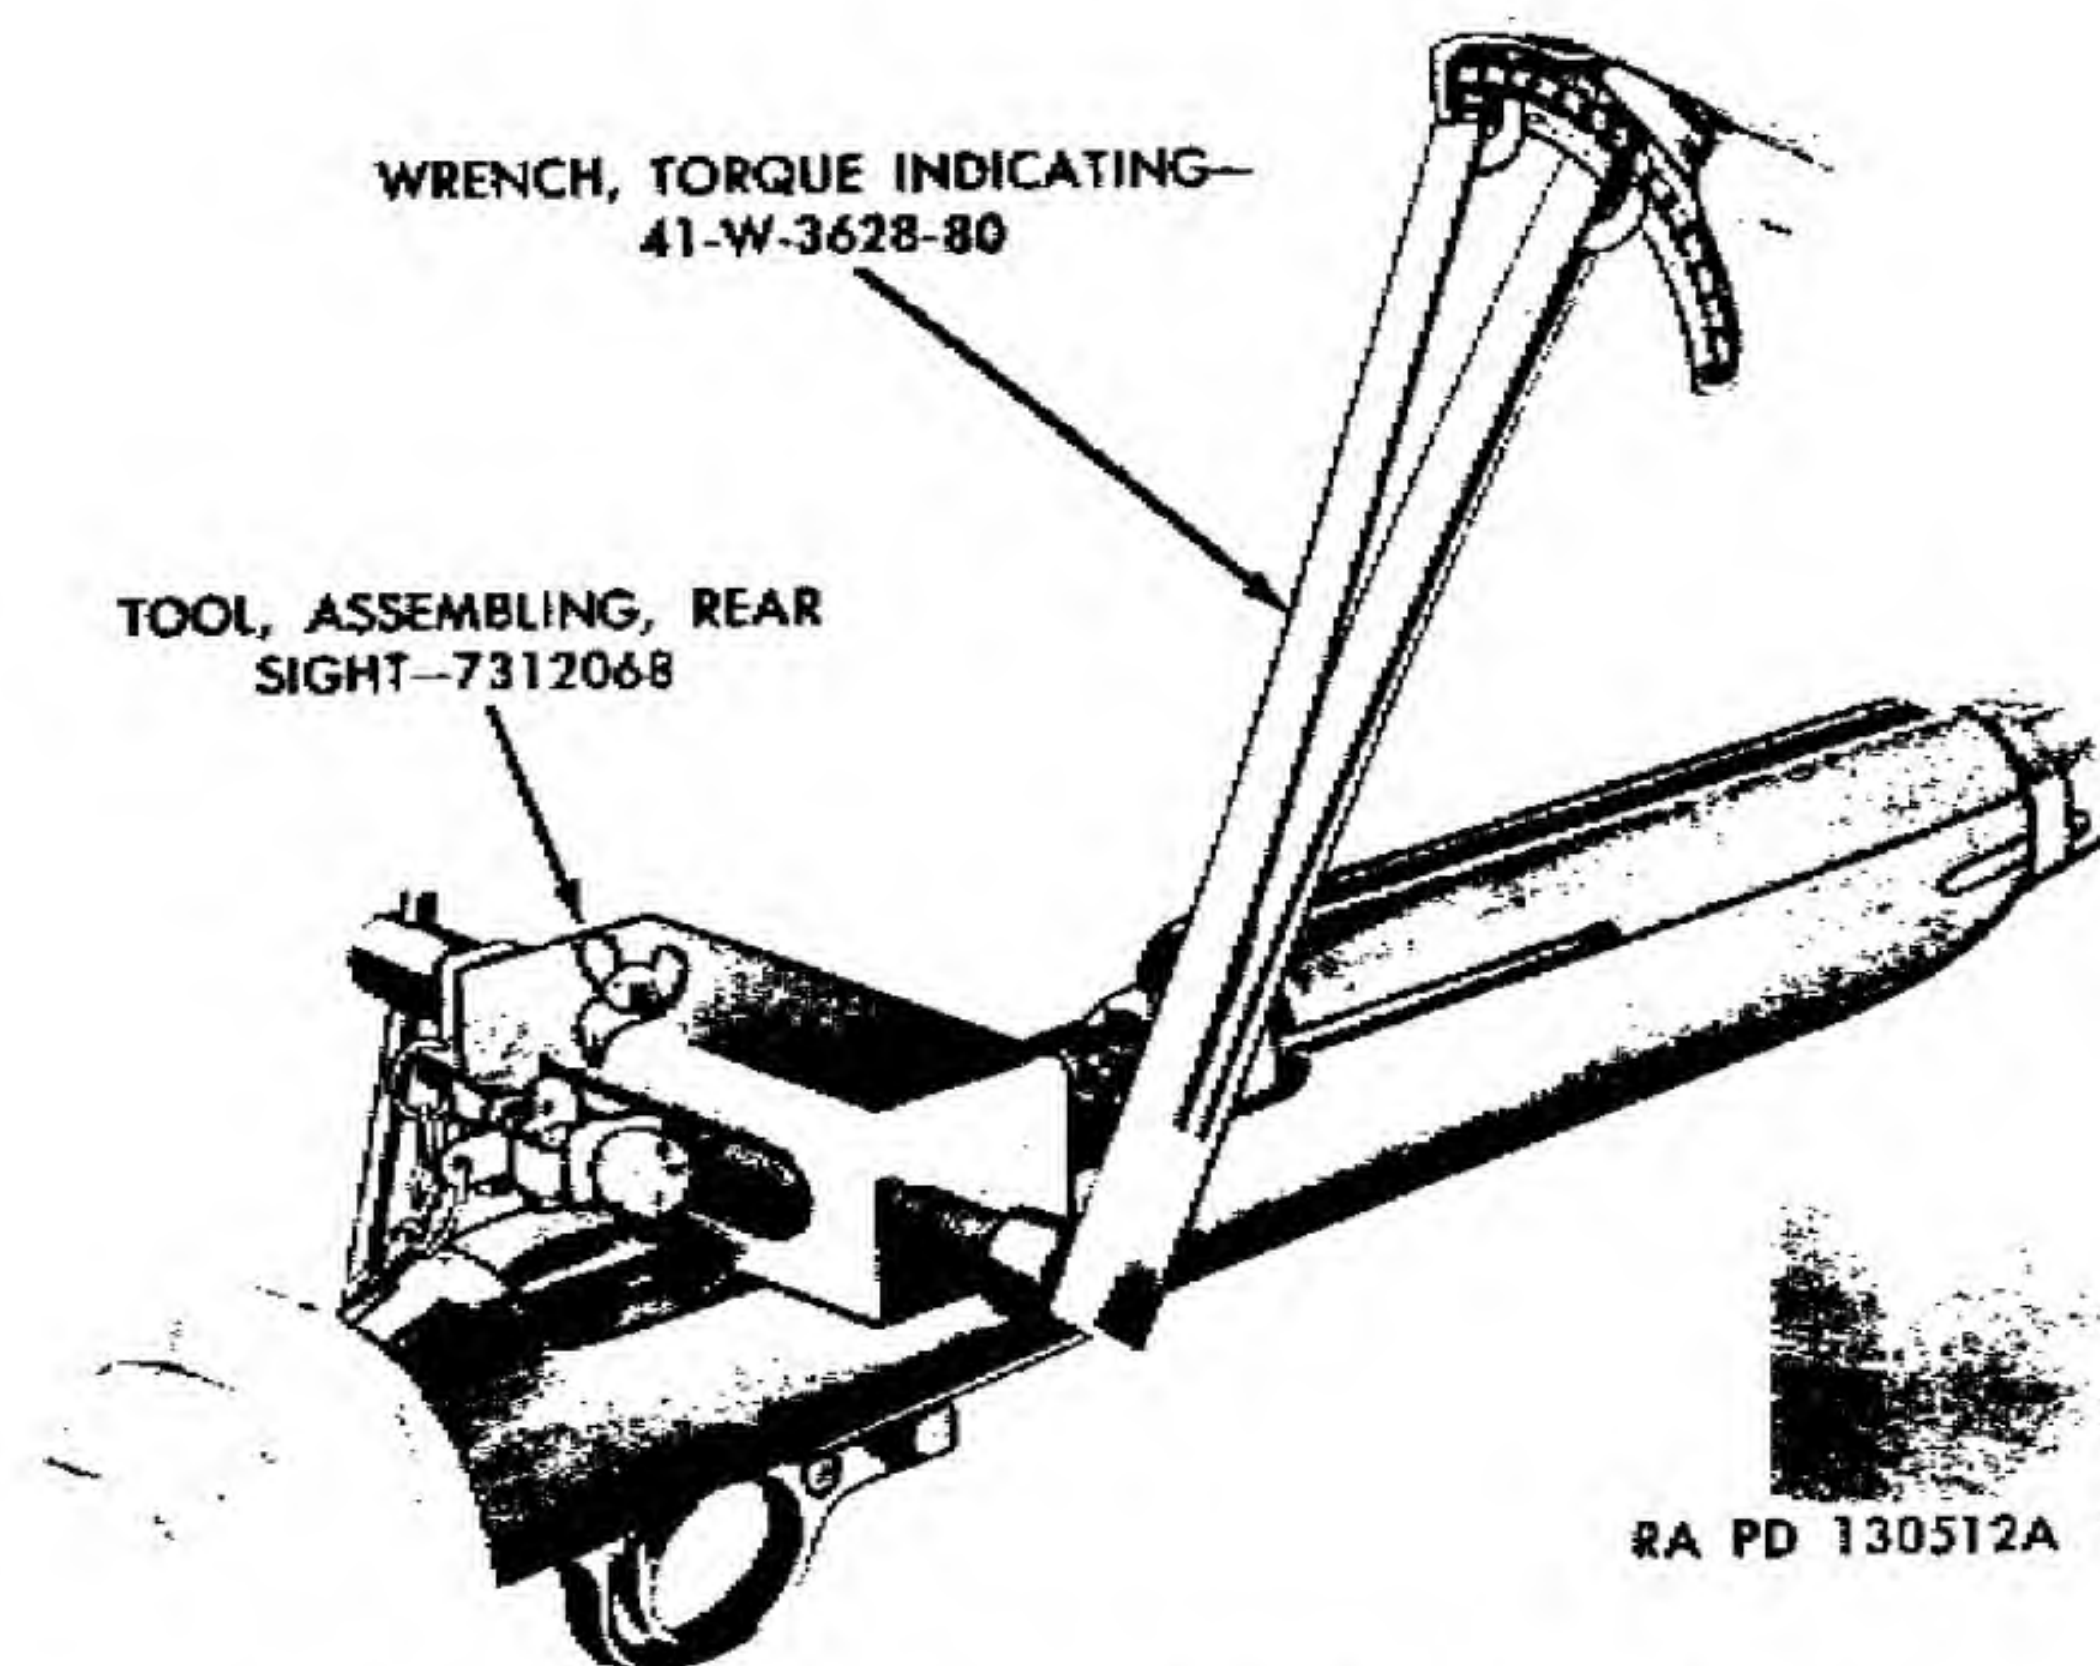

Figure 70. Moving rear sight in place with torque wrench.
g. Insert torque wrench 41-W-3628-85 (fig. 8), and move the sight into the dovetail slot (fig. 70). Wrench should show an applied torque reading of between 18 and 54 inch-pounds. If the reading is not within the above limits, remove sight and proceed as follows: